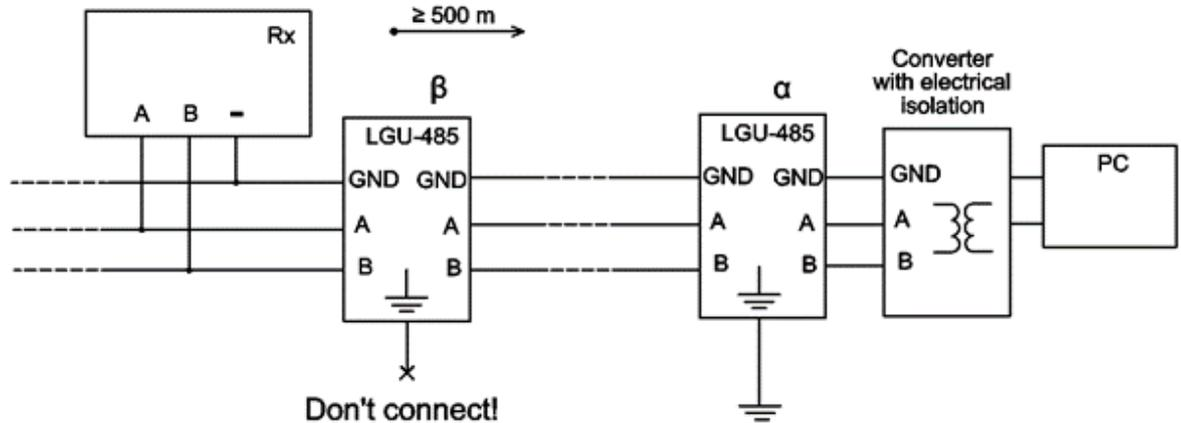

Figure 2.13 – Example of lightning protection of the line RS-485
- 2.3.8.12.2 The example of lightning protection of the line RS-485 is given in Figure 2.13. The lightning guard unit α is recommended for use in all the situations. The